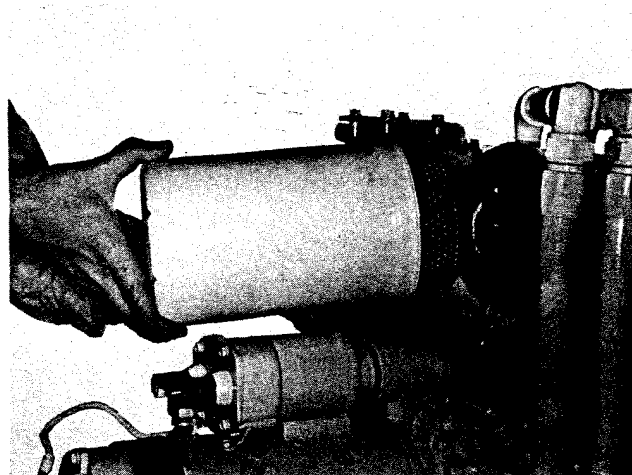

Fig. 2-2, (V11943). Full-flow oil filter element
2. Loosen center bolt and remove filter can. Fig. 2-2.